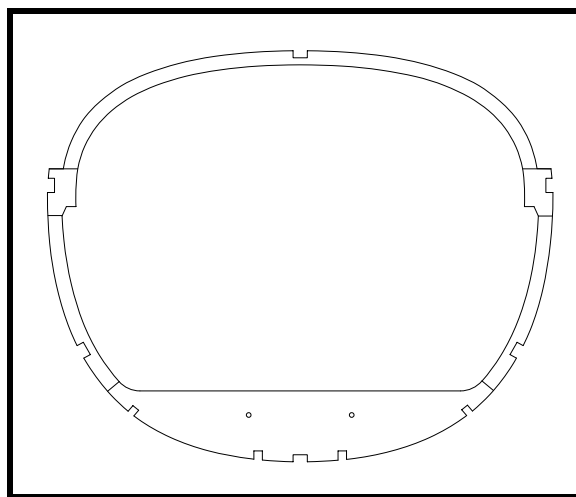

Figure 14
- ❑ Cut the six longeron cutouts in fuselage frame No. 3. As with frame No. 4, a master template should be used to locate the longeron cutouts. See Figure 14.